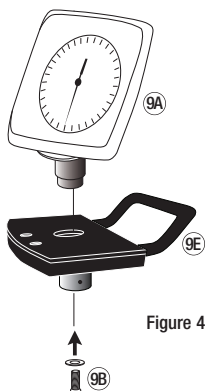

Figure 4
4. Attach manometer bracket (with attached manometer) to platform using short 6 mm hex screw and washer. Tighten with large hex key. (Figure 4)